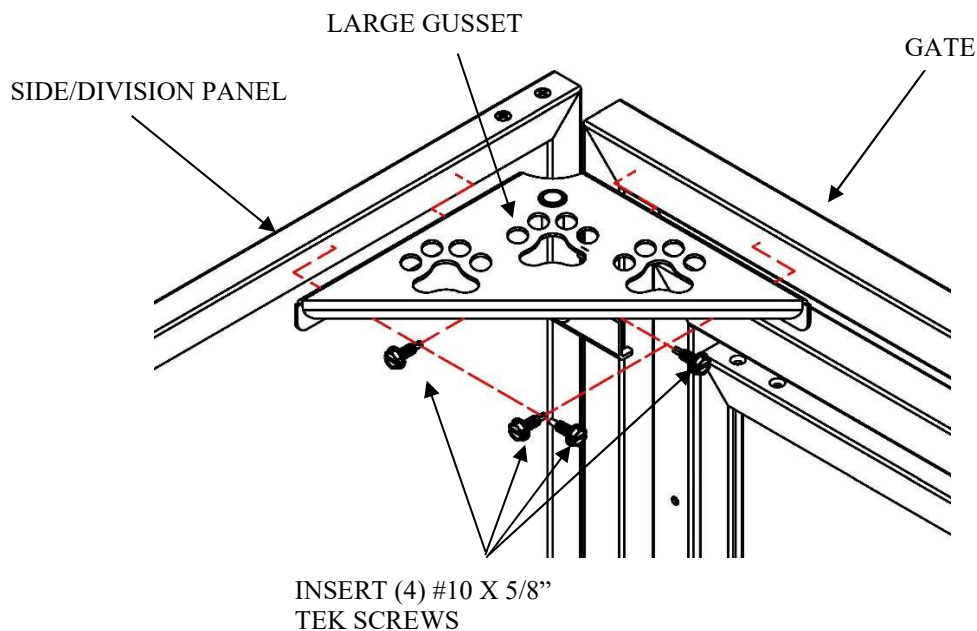

Figure 15
3. Moving to the front of the kennel, use the previous method and supplied Tek screws to attach a large gusset to the side panel and gate. See Figure 15.